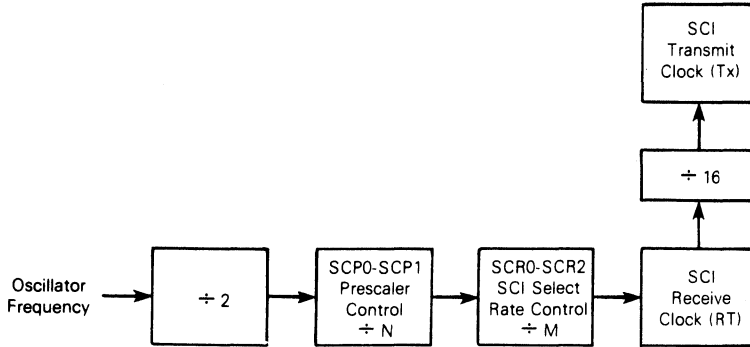

Figure 5-7. Rate Generator Division
The diagram of Figure 5-7 and Tables 5-1 and 5-2 illustrate the divided chain used to obtain the baud rate clock (transmit clock). Note that there is a fixed rate divide-by-16 between the receive clock (RT) and the transmit clock (Tx). The actual divider chain is controlled by the combined SCP0-SCP1 and SCR0-SCR2 bits in the baud rate register as illustrated. All divided frequencies shown in the first table represent the final transmit clock (the actual baud rate) resulting from the internal processor clock division shown in the "divide-by" column only (prescaler division only). The second table illustrates how the prescaler output can be further divided by action of the SCI select bits (SCR0-SCR2). For example, assume that a 9600 Hz baud rate is required with a 2.4576 MHz external crystal. In this case the prescaler bits (SCP0-SCP1) could be configured as a divide-by-one or a divide-by-four. If a divide-by-four prescaler is used, then the SCR0-SCR2 bits must be configured as a divide-by-two. This results in a divide-by-128 of the internal processor clock to produce a 9600 Hz baud rate clock. Using the same crystal, the 9600 baud rate can be obtained with a prescaler divide-by-one and the SCR0-SCR2 bits configured for a divide-by-eight.